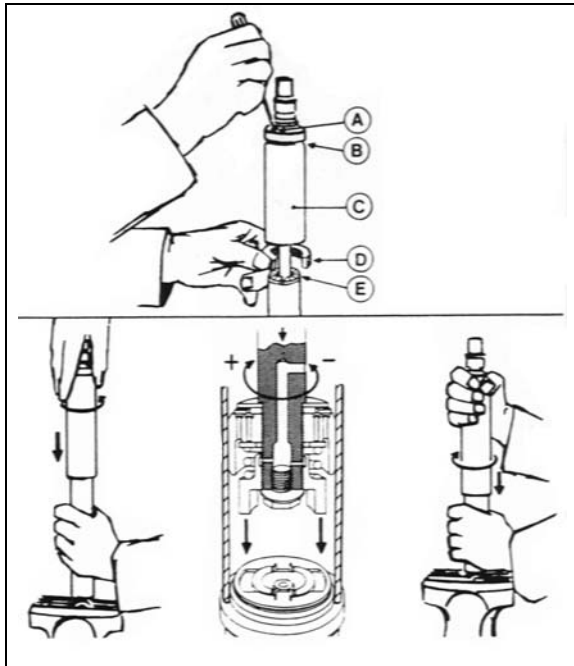

FIGURE 17: DAMPER
To adjust opening and closing cycle speed on damper (Figure 17):
2. Fully close the damper while turning the dust cap or piston rod slowly CCW until it is felt that the cams of the adjusting nut engage in the recesses of the foot valve assembly (Figure 17).
Where a bump rubber was installed, refit same inside the dust cap and by fully closing the damper, the rubber will seat again at top of the dust cap. Refit the split plastic collar E (Figure 17)